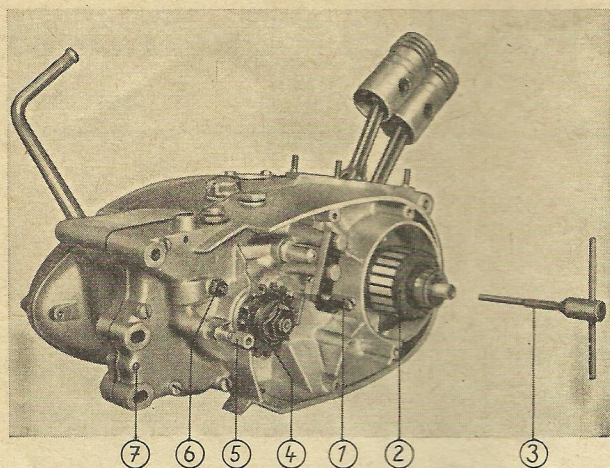

Fig. 2: Engine block, right side view
5. Screw adjusting screw of clutch lever (fig. 2/1) at engine block so far out that the clutch lever can be taken out of its guide, unhitch cable from slit in clutch lever. (Do not lose slit nipple!)
2. Insert clutch hub holder (spec. tool No. 253.7014 consisting of some old clutch discs welded together) and chain sprocket clamp (Part No. 253.7031). On the right side of engine block first unscrew stay bolt (fig. 2/5), then flatten lock disc of the retaining nut of the gearbox sprocket (fig. 2/4). Unscrew nut and remove sprocket with extractor tool (Part No. 250.7013). Remove cotter pin (Woodruff key).
3. Remove carbon brusher of generator, unscrew mounting screws and remove base plate. Remove the armature (fig. 2/3) by means of the extractor screw (Part No. 22733) (fig. 2/3).
1. Knock out both crankcase locating pins (fig. 2/7) with the aid of a drift pin.
1. Unscrew nut (fig. 2/6) from speedometer gear-spindle bolt which carries the driving helical gear and press out spindle bolt.